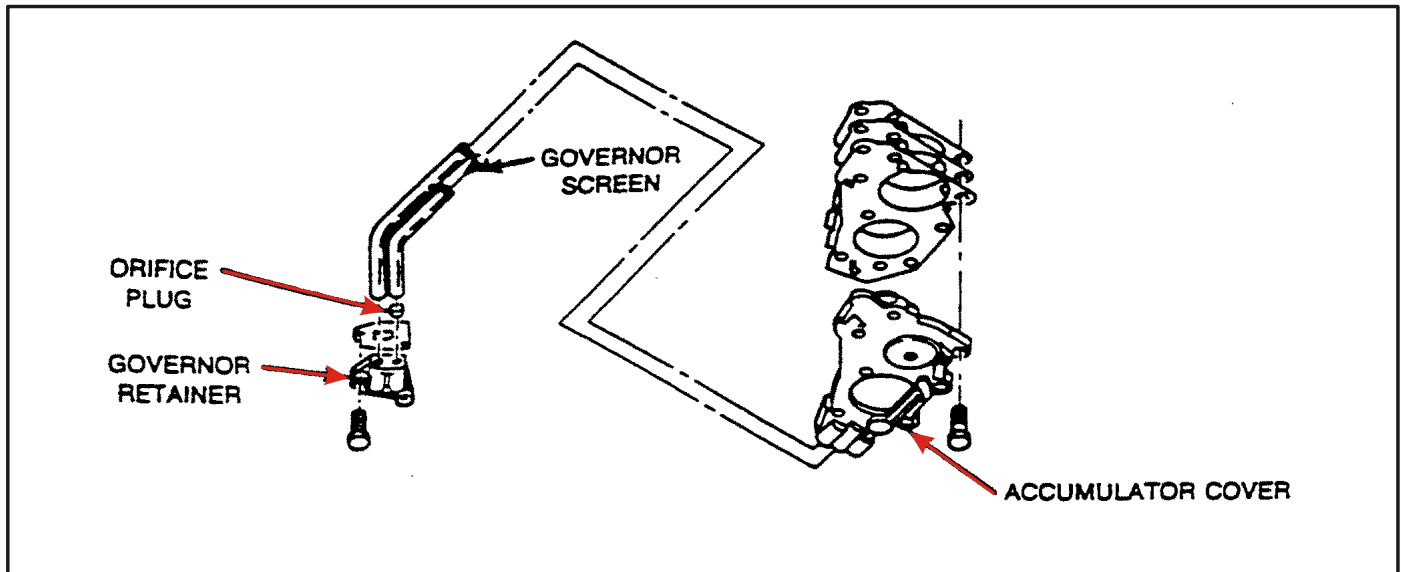

Figure 2
- 8 Remove bottom pan, inspect accumulator cover and governor retainer for damage of gasket and/or sealing surfaces. Inspect governor orifice for damage or missing orifice plug refer to Figure 2). Inspect and remove any foreign material that may be lodged in this area.